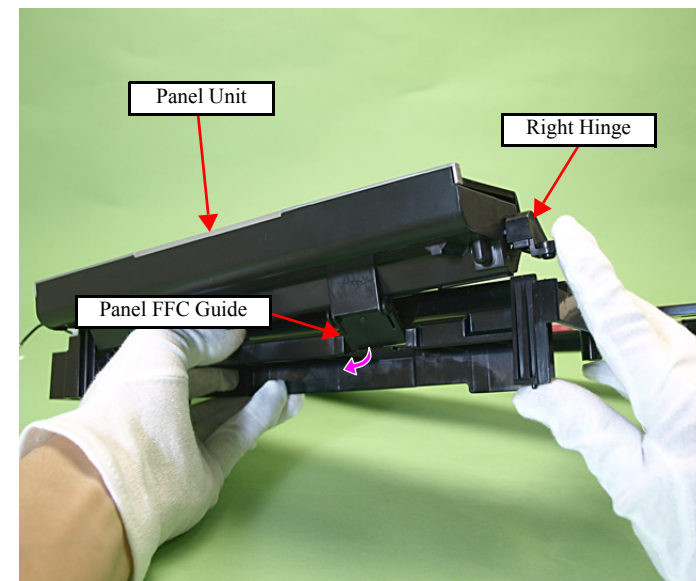

Figure 4-178. Removing the Panel Unit (1)
1. Open the Panel Unit. (See Fig. 4-178.)